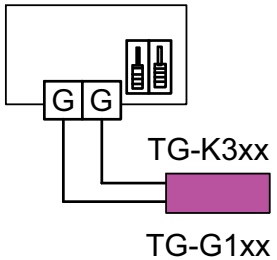

Figure 3: Switch setting and wiring for internal set-point and external sensor\*
**Note:** When using an external sensor, the equivalent sensor function in the PULSER must be disabled. This is done by setting the DIP-switches to the right of the terminal strip according to figure 3.